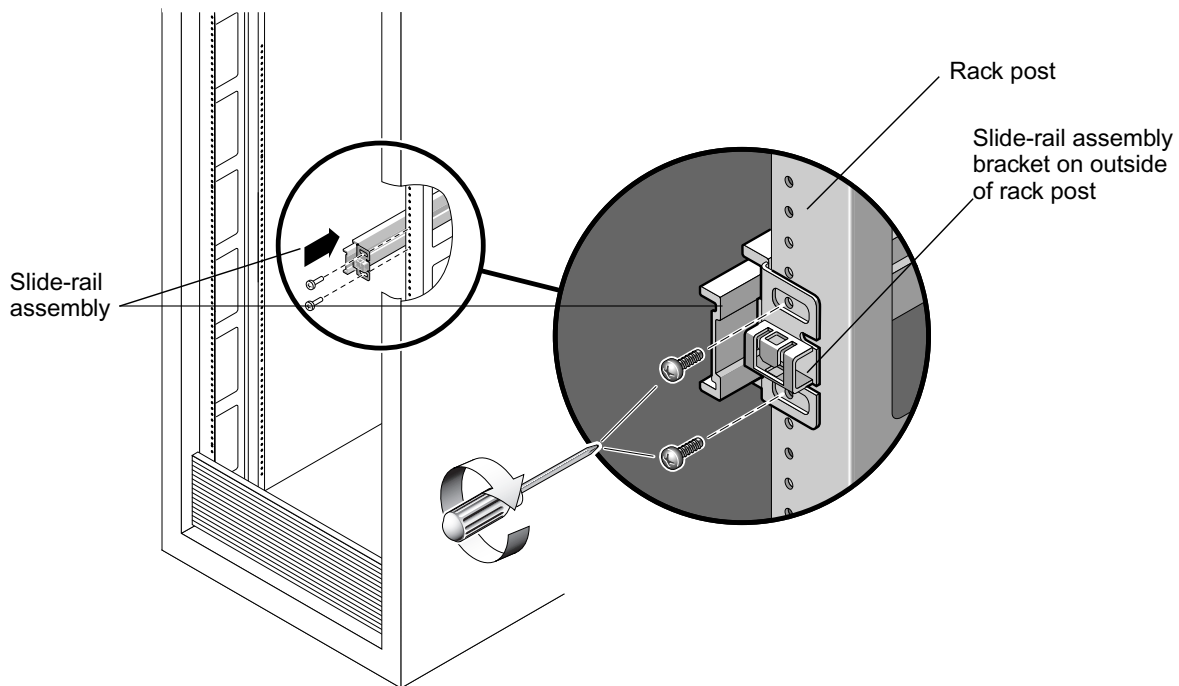

FIGURE 1-4 Slide-Rail Assembly Mounting to Rack Post
1. **Position a slide-rail assembly in your rack so that the brackets at each end of the slide-rail assembly are on the outside of the front and rear rack posts.** (See FIGURE 1-4.)